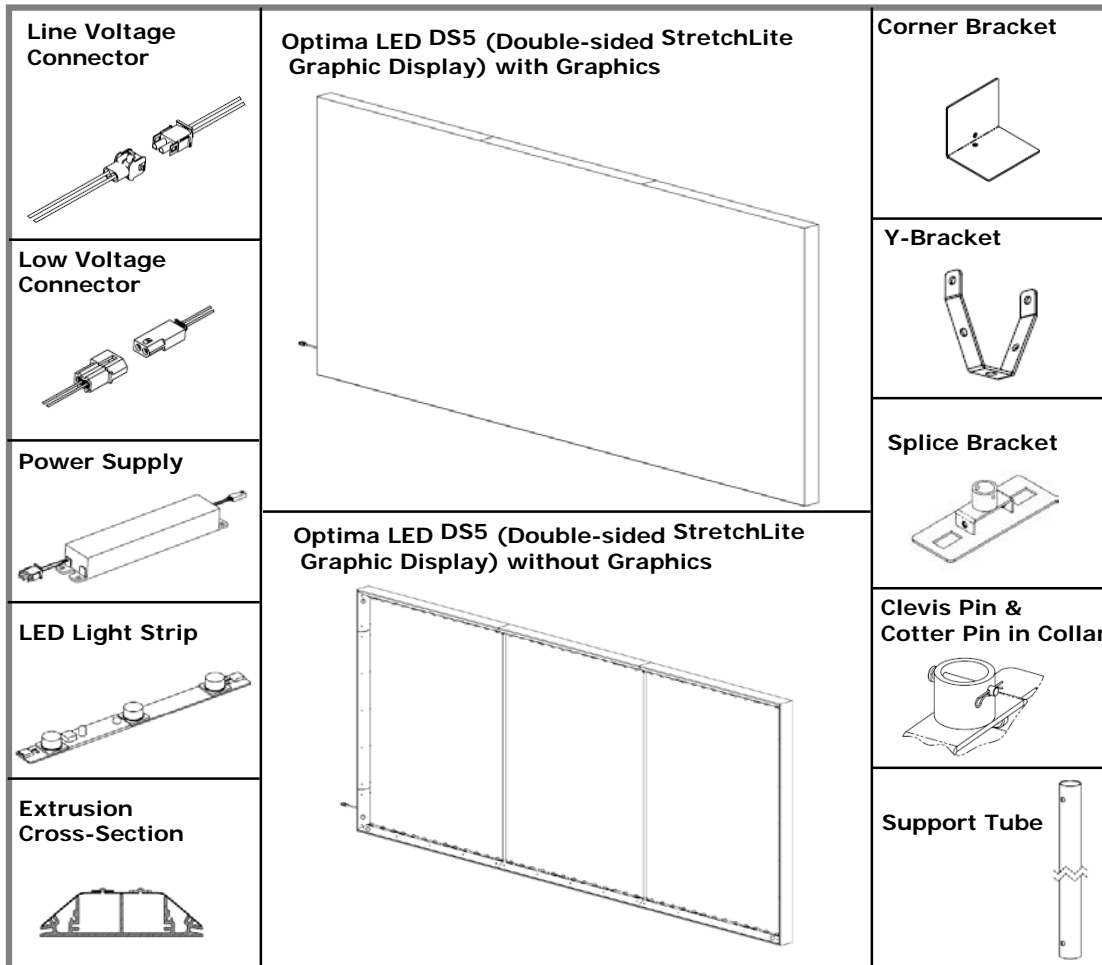

Figure 1
5. Larger frames will have one or more support poles and corresponding splice brackets to hold them in place. If there are support poles included, set them aside until needed. **See Figure 1.**